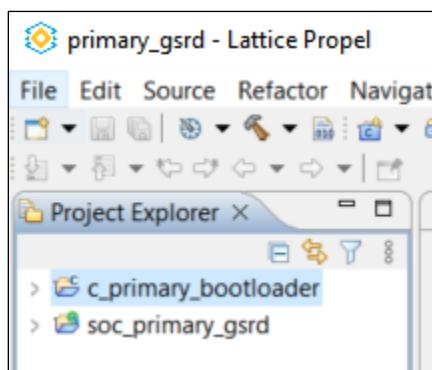

Figure 8.14. Bootloader C Project Created
15. This loads the Bootloader project in your workspace shown in Figure 8.14.